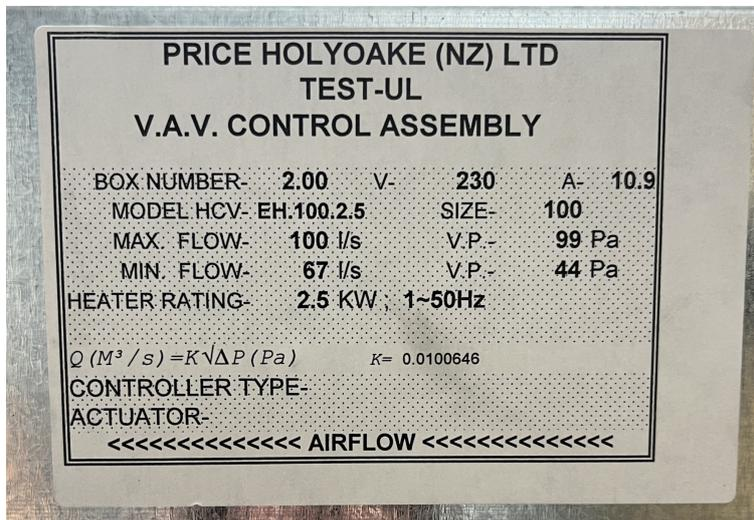

Figure 1: Heater Label
1. The most important requirement to follow when installing our electric duct heaters is to ensure it is installed in the correct orientation. This is to ensure that the safety devices within the duct heaters work as intended and that the components are in the correct position. Follow the airflow direction sticker placed on the box with the writing right side up, see Figure 1. If the duct heater was ordered with the incorrect handing, it CANNOT be flipped on site. Please contact the Price Holyoake sales team to remedy this situation.
- Check the specification label to ensure all the information is correct (volts, watts, phase, handing, airflow direction, etc.) See Figure 1 for example of label.